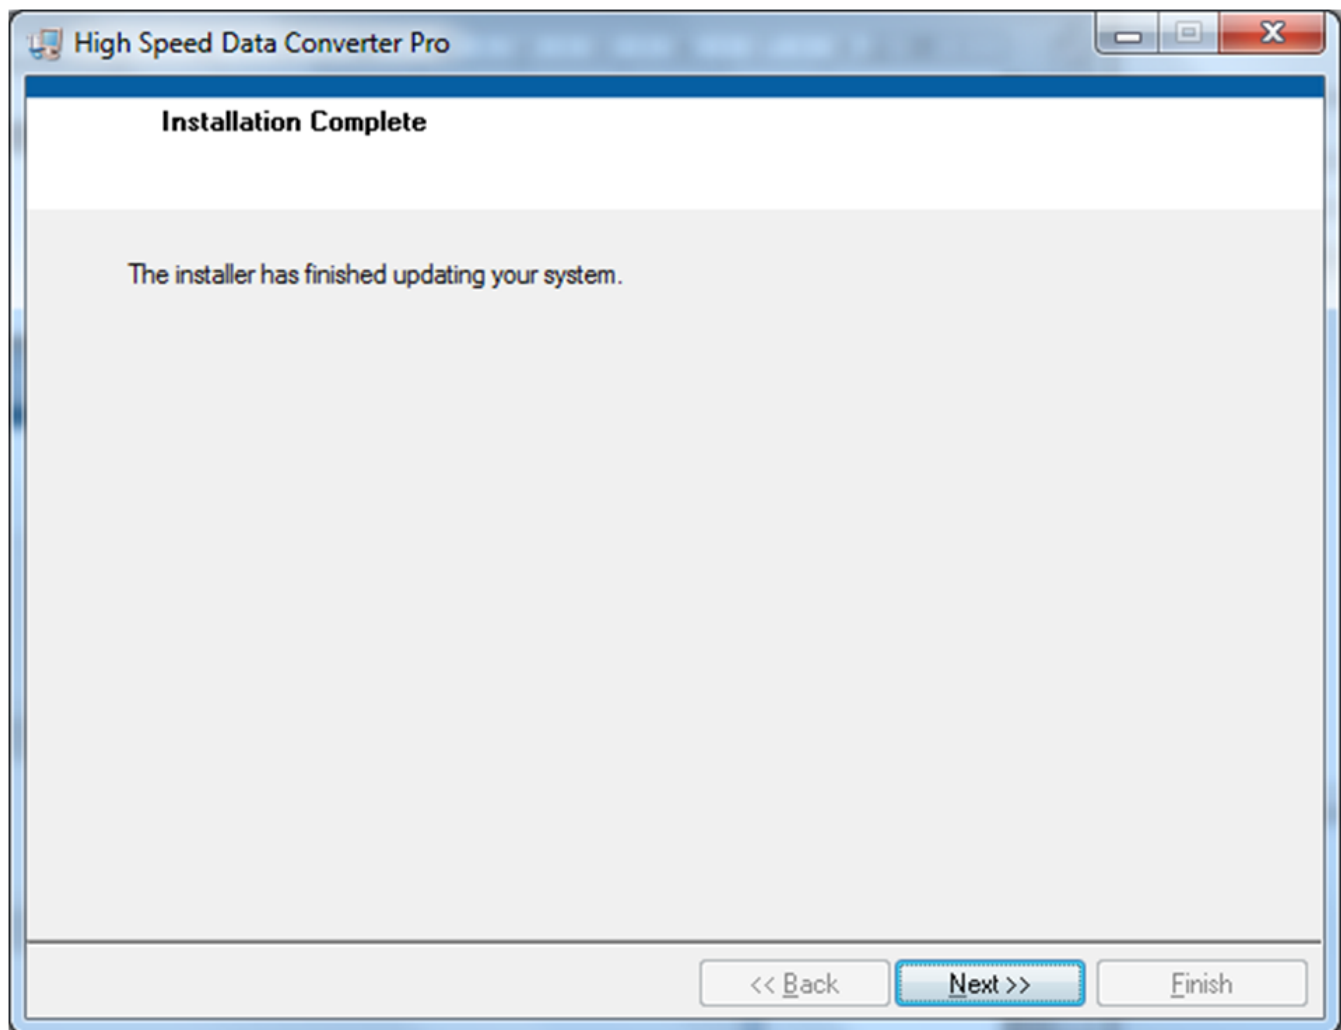

Figure 46. HSDCPro Install (Installation Complete)
- The window shown in Figure 46 appears indicating *Installation Complete*. Press the *Next* button.